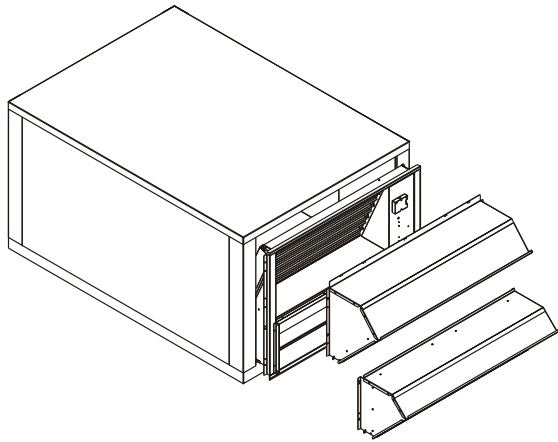

Fig. 36 — Slide Economizer Assembly into Unit
6. Slide economizer assembly into unit over return opening, but DO NOT insert completely into unit, as shown in Fig. 36. Connect low and high voltage wiring to the terminal block and transformer per wiring diagram shown in Fig. 37.